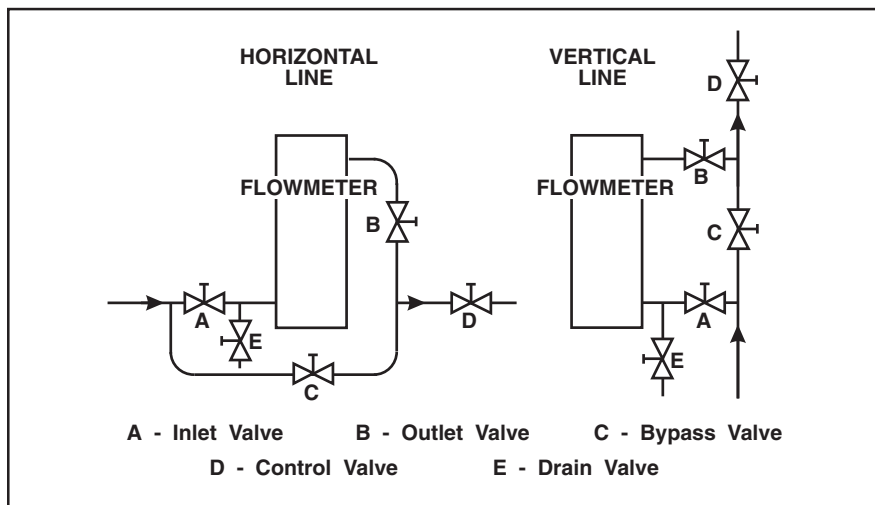

Figure 3-1 Typical Bypass Installation
To initiate flow through a flowmeter using bypass piping, refer to Figure 3-1.
- a. Carefully install the float in the tube with the metering edge up. Refer to Figure 3-1 to determine the metering edge location.
- c. Tighten the four (4) side plate screws in place.